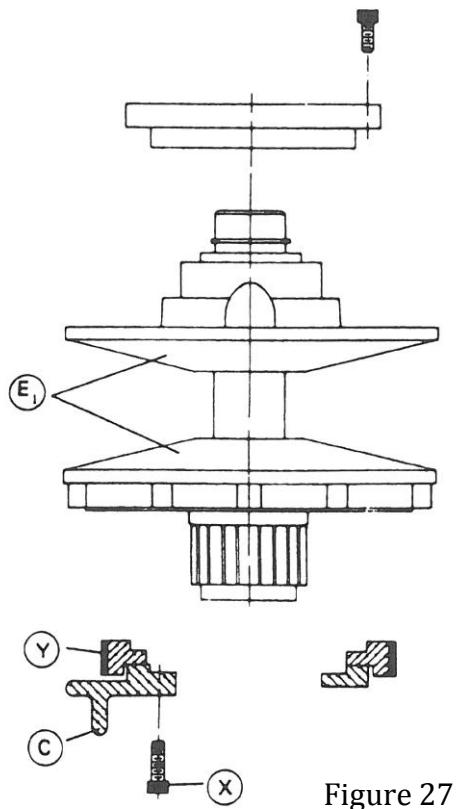

Figure 27
3. Brake Block Replacement (Fig. 27):
- c. Remove vari-disk assembly set "E1" (Fig. 27) by removing bolt "X".